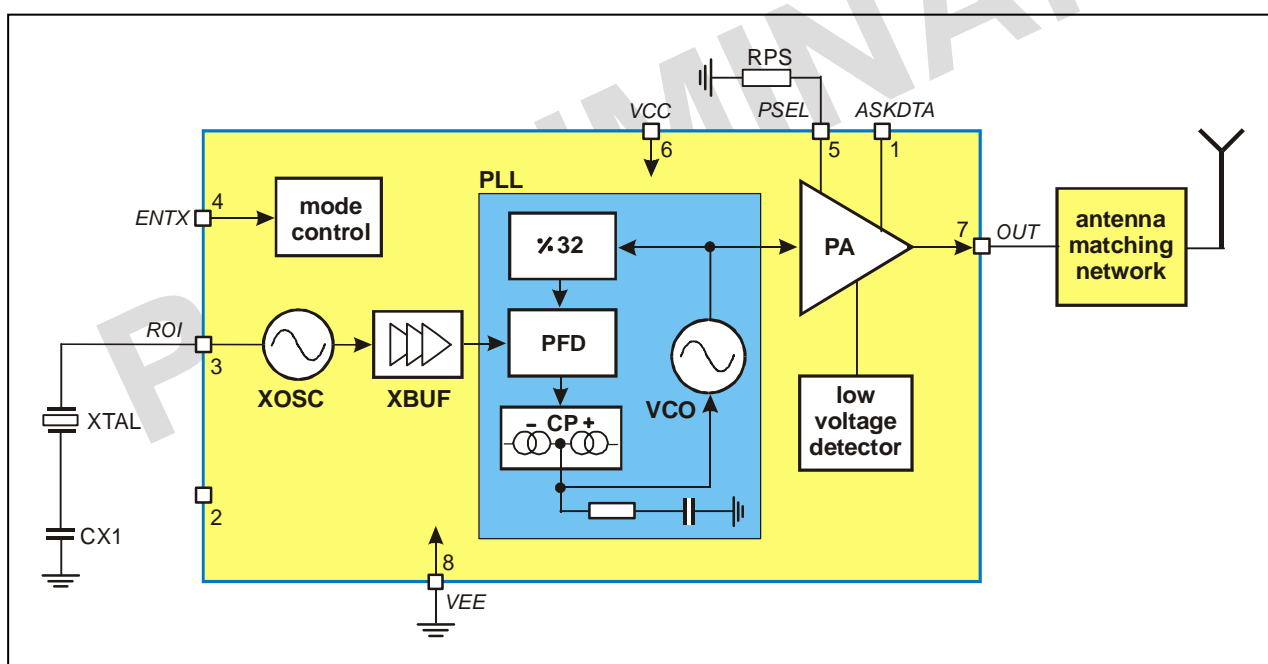

Fig. 1: Block diagram with external components
As depicted in Fig.1, the TH72012 transmitter consists of a fully integrated voltage-controlled oscillator (VCO), a divide-by-32 divider (div32), a phase-frequency detector (PFD) and a charge pump (CP). An internal loop filter determines the dynamic behavior of the PLL and suppresses reference spurious signals. A Colpitts crystal oscillator (XOSC) is used as the reference oscillator of a phase-locked loop (PLL) synthesizer. The VCO's output signal feeds the power amplifier (PA). The RF signal power  $P_{out}$  can be adjusted in four steps from  $P_{out} = -12$  dBm to  $+8.5$  dBm, either by changing the value of resistor RPS or by varying the voltage  $V_{PS}$  at pin PSEL. The open-collector output (OUT) can be used either to directly drive a loop antenna or to be matched to a 50Ohm load. Bandgap biasing ensures stable operation of the IC at a power supply range of 1.9 V to 5.5 V.